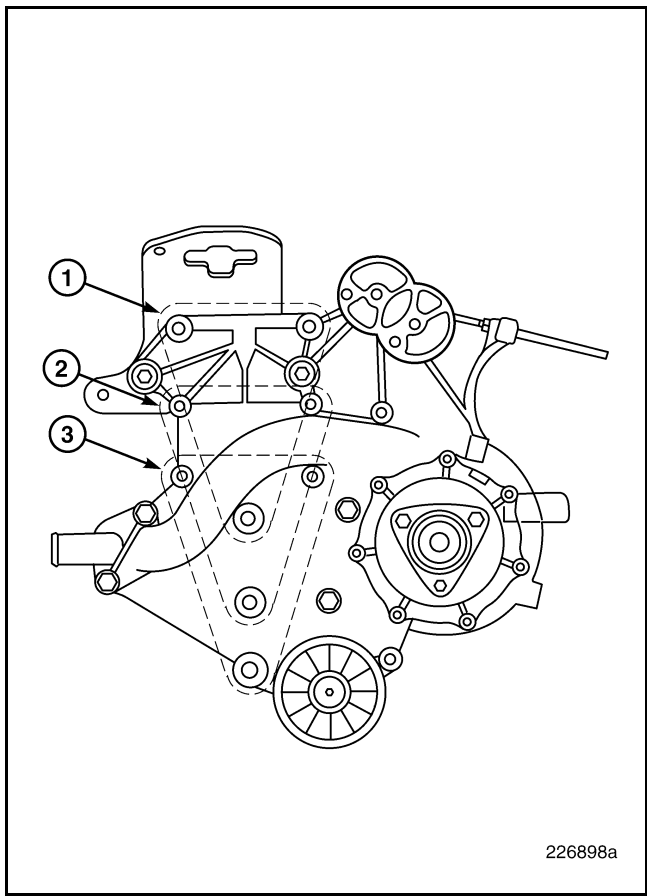

Figure 445 — Fan Clutch Assembly Bracket Mounting Locations
15. Install the fan, fan clutch assembly and bracket on the water pump housing. There are three sets of screw holes in the housing for mounting the fan clutch assembly bracket (Figure 445). The hole set used is dependent on the chassis application.